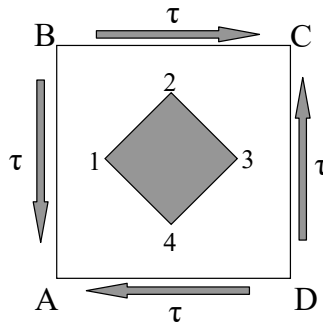

Figure 2
- c) Considering, for convenience another element 1234 , as shown in Figure 2, obtain the stress state in the edge 14 . For this purpose it is recommended to study the equilibrium of the triangular prism BCD (that is, apply a cut BD to the original prism $ABCD$ and impose equilibrium conditions).